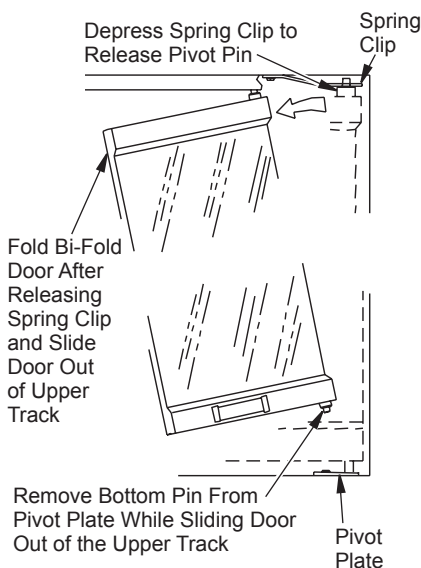

Figure 1 - Removing Glass Doors
1. Remove front glass panels (if installed). This will keep them from being damaged. To remove, partially open doors. Press up on upper spring clip of one door panel with a screwdriver until outer top pivot pin is free of clip (see Figure 1). Repeat with second door panel. Place glass panels safely out of your work area.